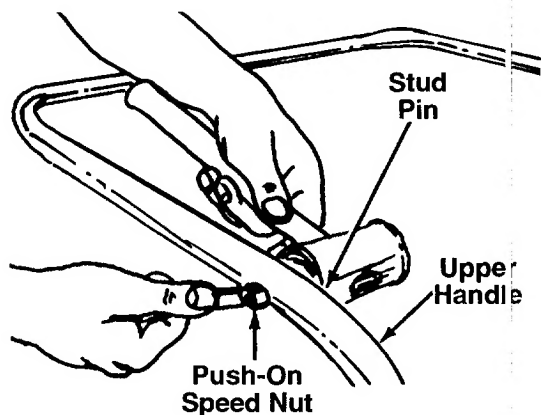

FIGURE 7.
1. Place the stud pins in holes in upper handle (head of pins go to the inside of handle). Secure pins with push-on speed nuts by holding speed nut with box wrench and tapping pin with hammer. See figure 7. ←